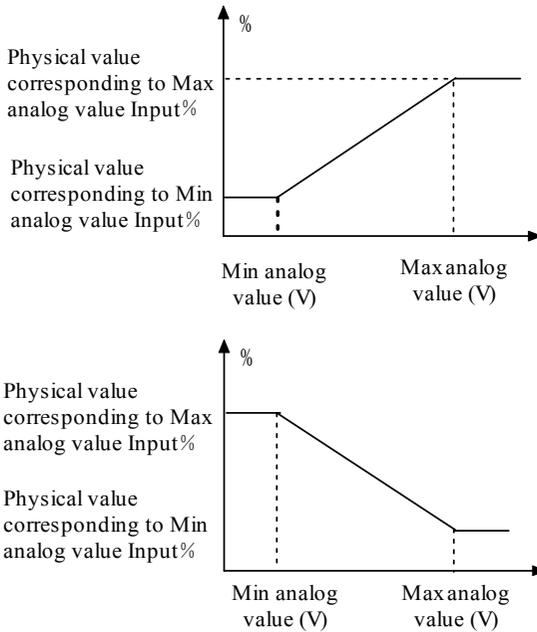

Fig. 5-4-1 Analog input linear curve
- ◆ Through setting P4.01~P4.04, P4.06~P4.09 and P4.11~P4.14, can defined two characteristic linear curves. The positive and negative function is shown in Fig.5-4-1.